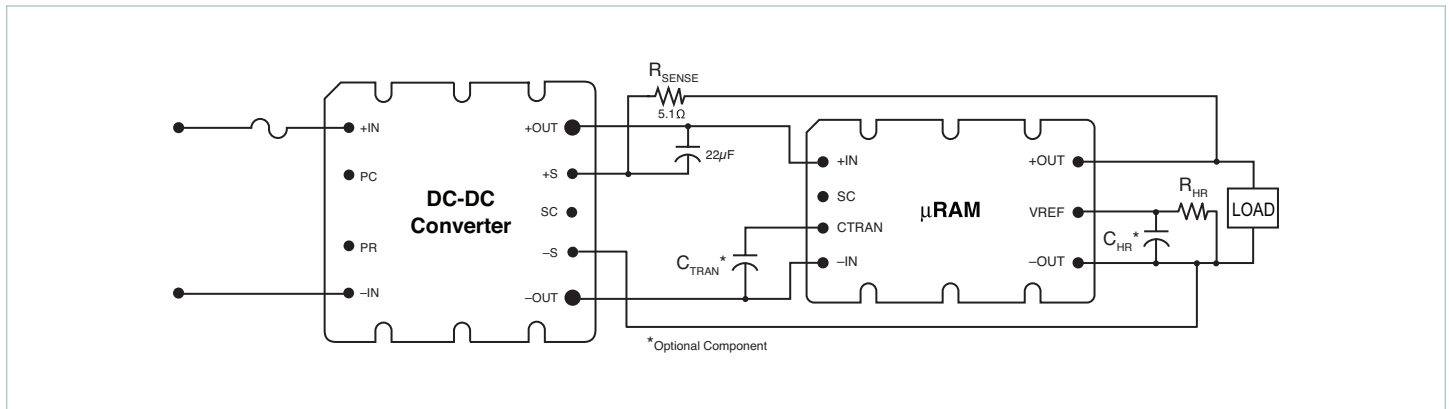
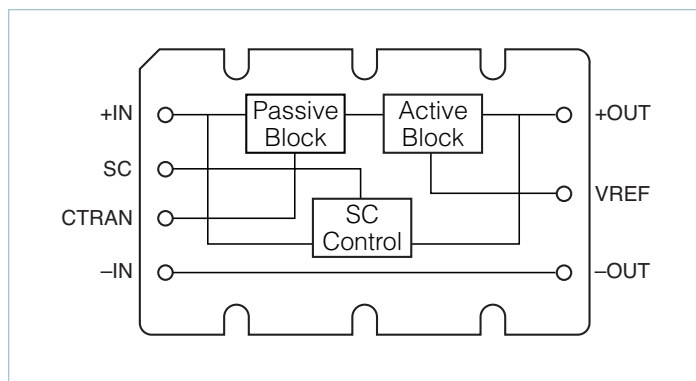

Figure 12.1a — Typical configuration using remote sense
Figure 12.2 — MicroRAM block diagram
The MicroRAM has an internal passive filter, (Figure 12.2) that effectively attenuates ripple in the 50kHz to 1MHz range. An active filter provides attenuation from low frequency up to the 1MHz range. The user must set the headroom voltage of the active block with the external RHR resistor to optimize performance. The MicroRAM must be connected as shown in Figures 12.1a or 12.1b depending on the load-sensing method. The transient load current performance can be increased by the addition of optional CTRAN capacitance to the CTRAN pin. The low-frequency ripple attenuation can be increased by addition of optional CHR capacitance to the VREF pin as shown in Figures 12.3a and 12.3b.
**Figure 12.14** — V48C5C100B and  $\mu$ RAM; Input and output ripple @ 50% (10A) load CH1 = VIN; CH2 = VOUT; VIN – VOUT = 327mV;  $R_{HR} = 31k\Omega$  (Configured as in Figures 12.1a and 12.1b)
**Figure 12.15** — V48C5C100B and  $\mu$ RAM; Input and output dynamic response no added  $C_{TRAN}$ ; 23% of 20A rating load step of 4.5A (10 – 14.5A);  $R_{HR} = 31k\Omega$  (Configured as in Figures 12.1a and 12.1b)
**Figure 12.16** — V48C5C100B and  $\mu$ RAM; Input and output dynamic response  $C_{TRAN} = 820\mu F$  Electrolytic; 35% of load step of 7A (10 – 17A);  $R_{HR} = 31k\Omega$  (Configured as in Figures 12.1a and 12.1b)